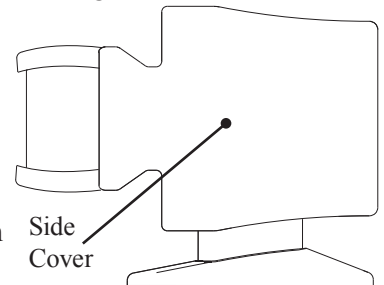

Figure 9
- In a similar manner, remove the other side cover from the Loudspeaker. Place both covers on to the previously removed protective cloth cover for safe keeping. Refer to figures 9 and 10.